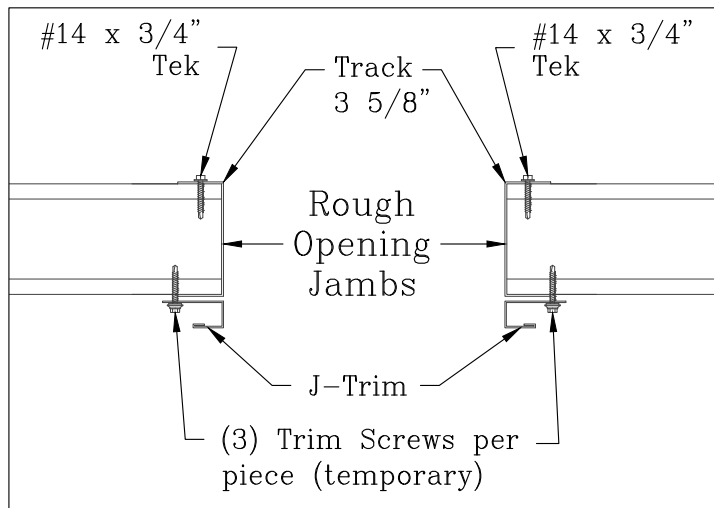

Figure 26-1
Trim the girts from the rough opening and install 3 5/8" track studs. Attach the track to the girts with 14 x 3/4" Tek-screws. To trim around the opening fasten J-trim (Figure 26-1) to each side of the door and J-trim above the opening as shown in (Figure 26-2). Use (3) trim screws per piece, but they can be removed as panel screws are put in.